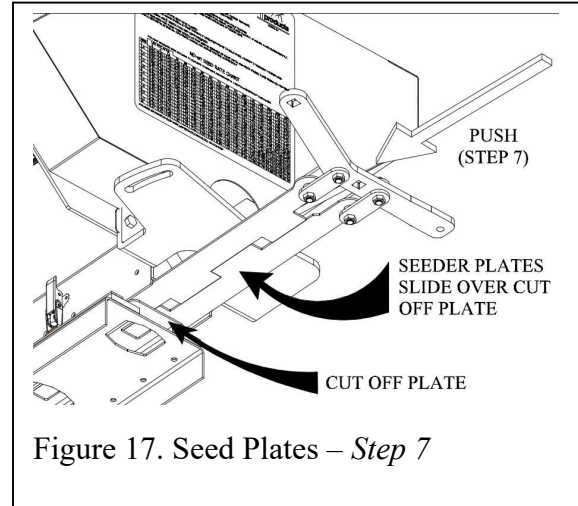

Figure 17. Seed Plates – Step 7
8. Take seed plate assembly and slide back into machine; be sure to put seed plates on top of cut off plate when starting to push them into the machine as shown in Figure 17. Compressed air may be used to blow out any debris impeding the new seed plates from sliding into place.